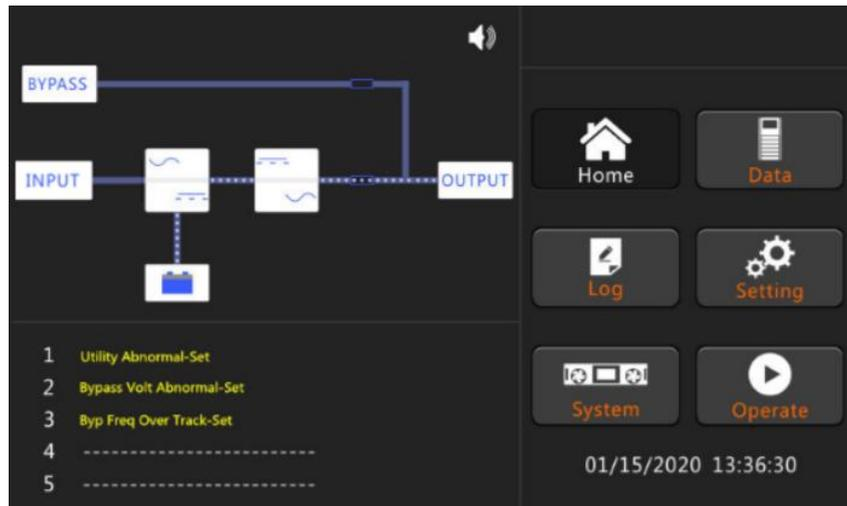

Figure 4-8 Energy flowing diagram of the start completed from batteries
3) After about 60 seconds, the rectifier completes the start, and the inverter begins to start, and after 30 seconds, the inverter complete the start, and supply the power to the output. The energy flowing diagram is shown in Figure 4-8.